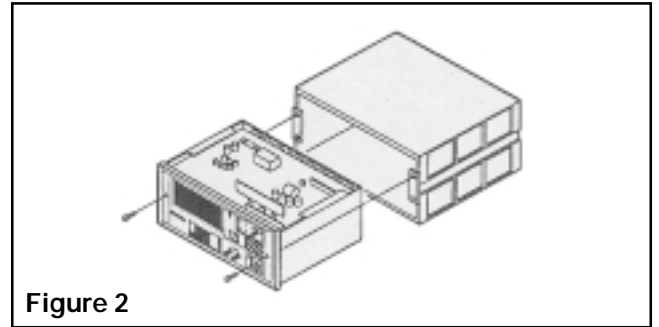

Figure 2
1. Remove two screws located in TM140D front panel (See Fig. 2).
2. Remove TM140D from mounting shell (See Fig. 2).
5. Reinsert TM140D into mounting shell and secure with two screws removed in Step 1 (See Fig. 2).